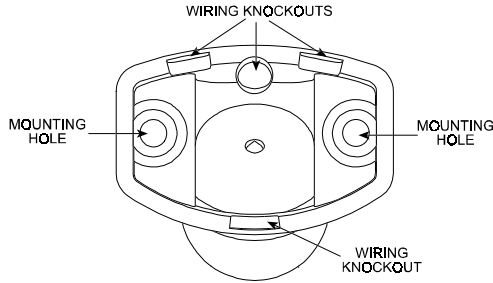

Figure 8. Bracket Base as Viewed from the Rear
F. Punch out the selected wiring knockouts in the bracket (see Figure 8).